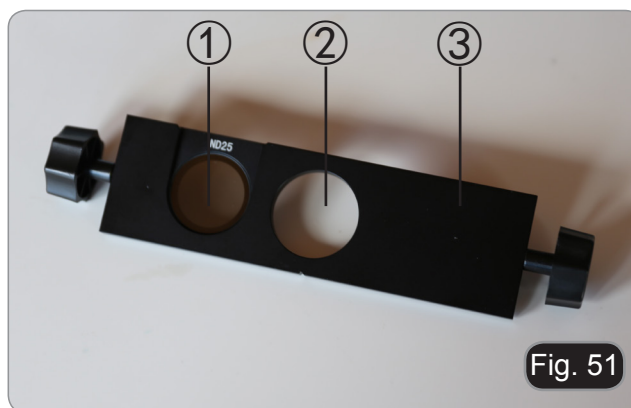

Fig. 51
- The microscope is equipped with a filter holder / shutter located on the back side of the microscope. (Fig. 51)
- The filter holder has three positions: ① filter holder for ND filters, ② empty hole, ③ shutter.